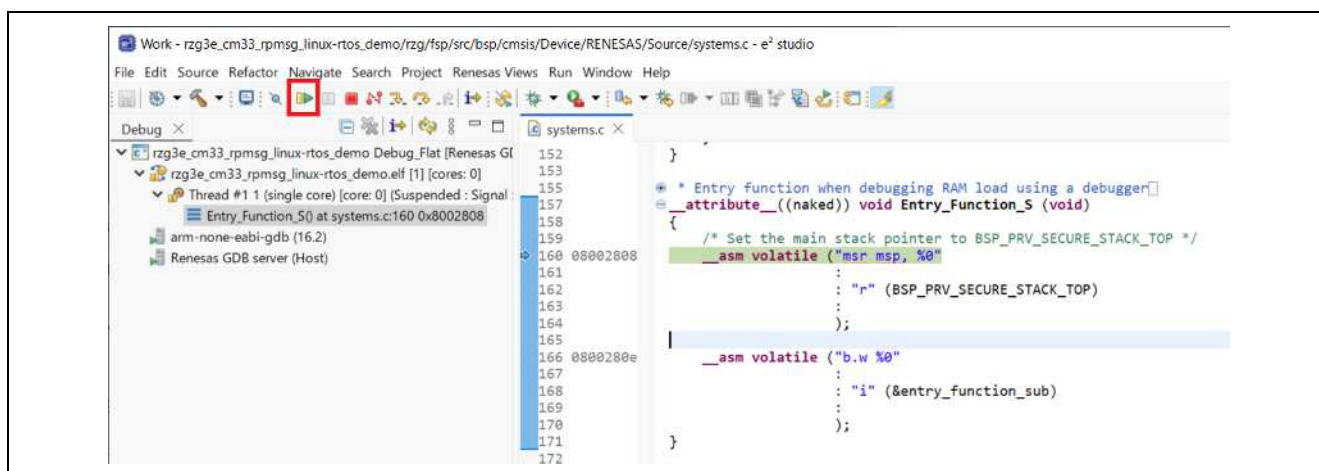

Figure 4-7. How to start to debug Sample Project (1)
- When **Debug Perspective** is opened, Program Counter (PC) should be located at the top of **Entry\_Function\_S**. Then, press the button shown in Figure 4.7.